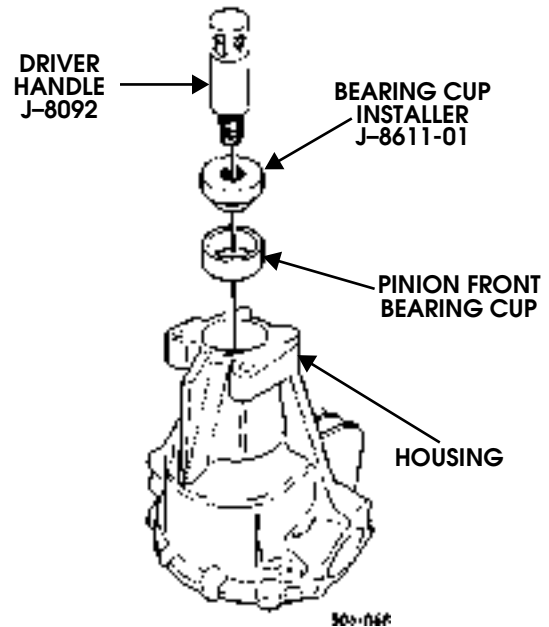

Figure 9-82: Pinion Front Bearing Cup Installation
4. Rotate housing so front pinion bearing cup bore faces up (Figure 9-82).